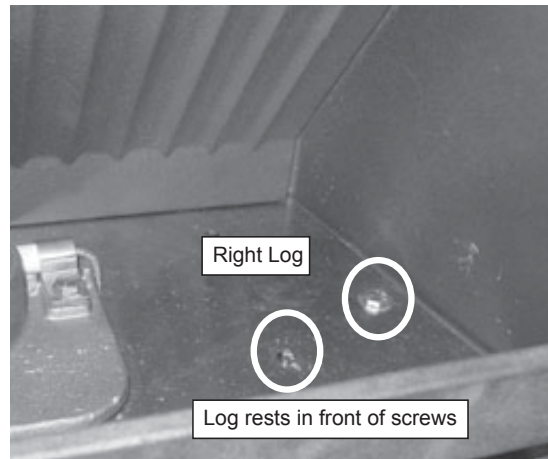

Figure 19.3
2. Place the right log in front of the 2 screw heads in the firebox. **Figures 19.3 and 19.4.**